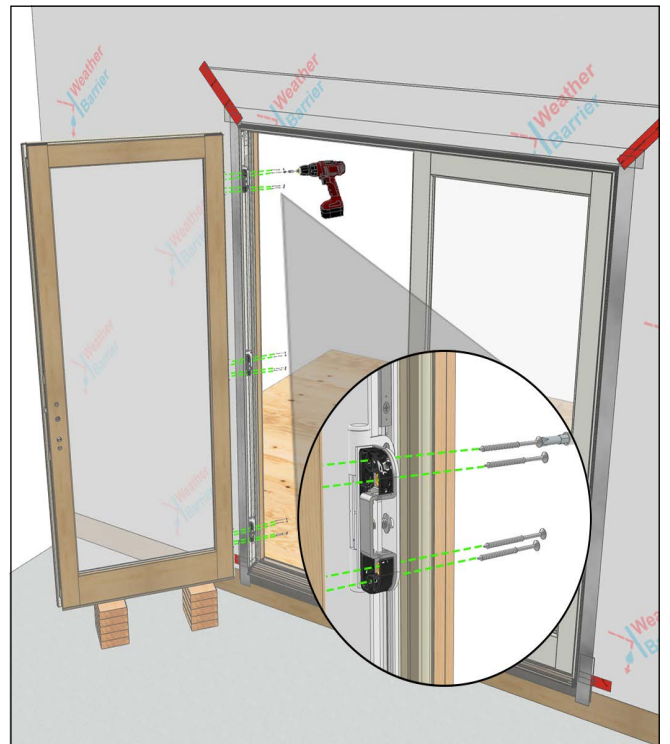

Figure 26
7. Fasten 4 x 2-1/2" matching screws are used to attach each hinge of the panel. Hinges are pre-applied to stationary panel on the swinging jamb. See Figure 26